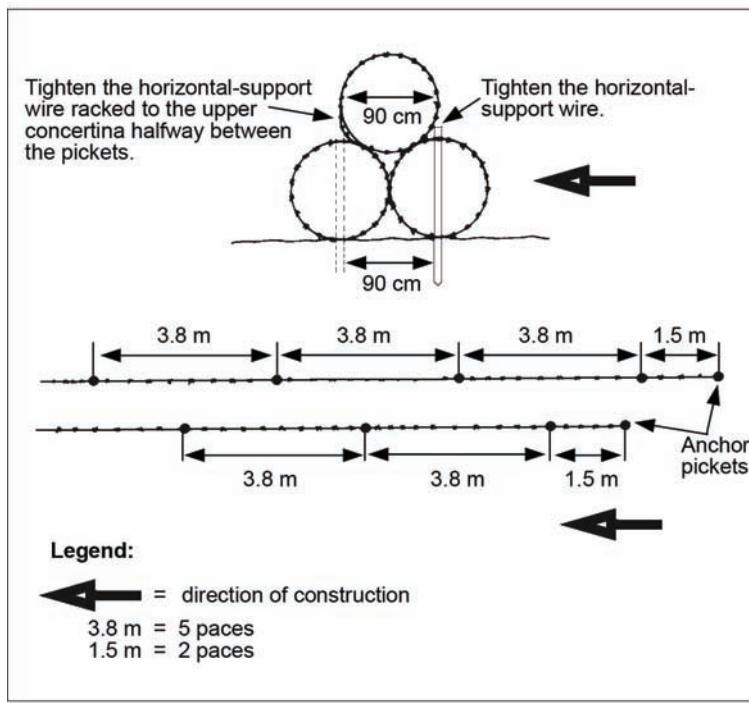

Figure 052-195-3066-1.Triple-standard concertina fence
- (1) Ensure that work is done from the enemy side to the friendly side.
- (2) Direct the installation of an anchor picket (short picket) at each end of the front row (located on the enemy side) and back row (located on the friendly side) with the first long picket being spaced 1.5 meters (2 paces) from the anchor picket.
- (3) Ensure that long pickets are spaced at 3.8-meter (5-pace) intervals, staggering the pickets on the back row between the pickets on the front row (figure 052-195-3066-1).